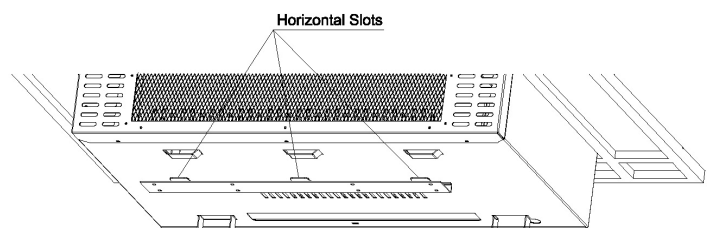

Figure 16 – Mounting Heater onto Mounting Bracket
1. Locate three horizontal slots on back panel of heater (see Figure 16).